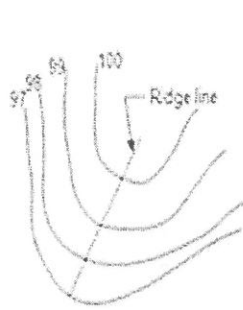

Fig. 1
6. Approximately concentric closed contours with decreasing values towards centre (Fig. 1) indicate a pond.